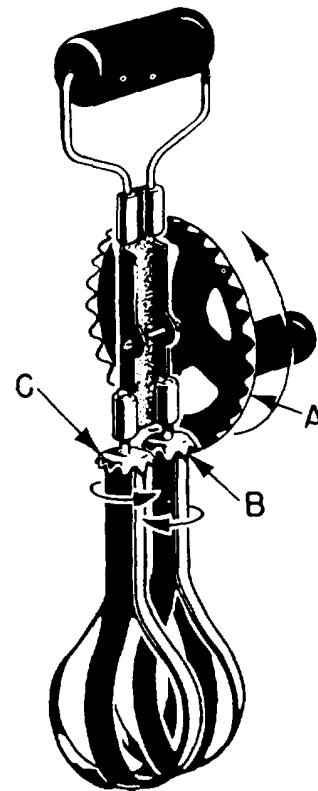

Figure 6-1.—A simple gear arrangement.
Follow the directional changes in figure 6-1. The crank handle turns in the direction shown by the arrow—clockwise—when viewed from the right. The 32 teeth on the large vertical wheel (A) mesh with the 8 teeth on the right-hand horizontal wheel (B), which rotates as shown by the arrow. Notice that as B turns in a clockwise direction, its teeth mesh with those of wheel C and cause wheel C to revolve in the opposite direction. The rotation of the crank handle has been transmitted by gears to the beater blades, which also rotate.